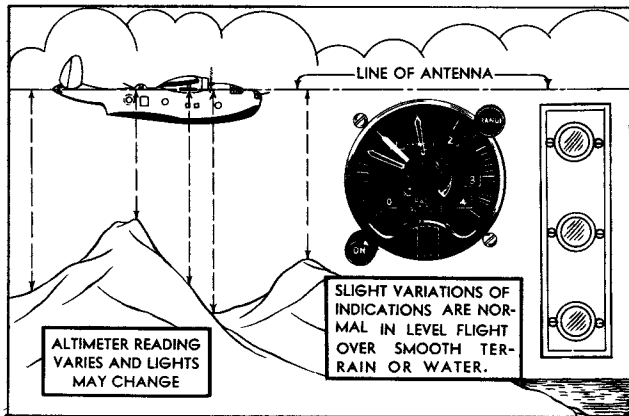

Figure 19—Altimeter Indications in Level Flight Over Varying Terrain
a. Absolute altitude with reference to the underlying terrain is indicated after take-off over both the low range (0 to 400 feet) and the high range (400 to 4000 feet). The Altitude Indicator reading will normally fluctuate with changes in terrain clearance when flying over rough or obstructed terrain, or through bumpy air (see Figure 19). At "drop-out" altitudes considerably above the upper limit of either range of the altimeter, the Altitude Indicator pointer may be expected to fall back from its full stop position as mentioned in paragraph 14-b(3), Section II.